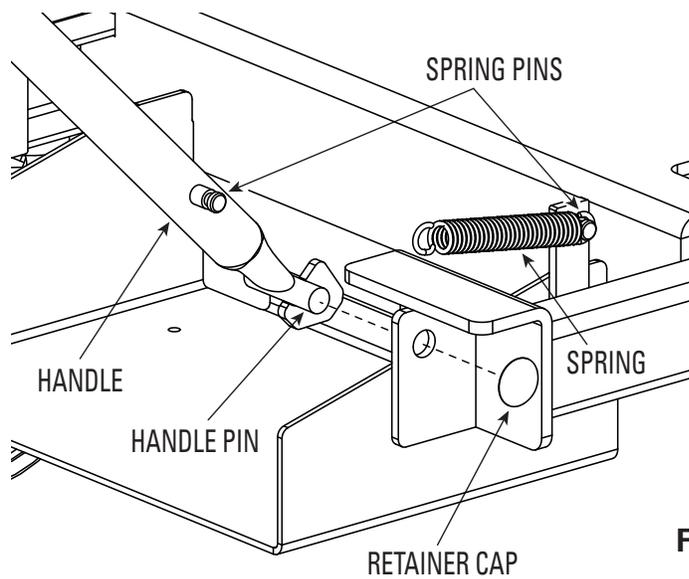

Fig. 2
- 3.) Attach handle to power unit/handle bracket by placing (1) handle pin into the power unit/handle bracket handle hole and then squeezing handle down rods together and inserting the other pin into the other power unit/handle bracket handle hole. After pins have been inserted into holes, place retaining cap over pin, taping into place with a rubber mallet. Lastly, attach springs to the cart spring pin and handle spring pin, Fig. 2.